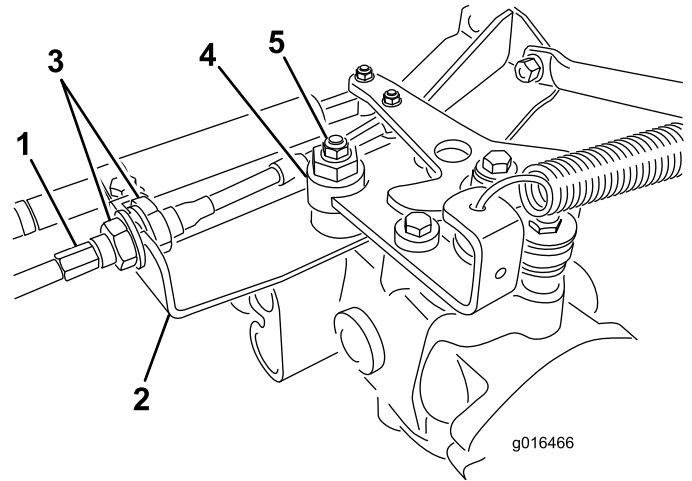

Figure 46
- A. Loosen both jam nuts securing the traction-control cable to the bulkhead on the hydrostat (Figure 46). Ensure that the jam nuts are loosened equally and sufficiently to allow adjustment.
Note: Loosen the nut securing the eccentric to the top of the hydrostat (Figure 46).
- E. When the wheel stops rotating, tighten the nut locking the eccentric and the adjustment (Figure 46).
- G. From each side of the bulkhead, tighten the locknuts evenly, securing the traction cable to the bulkhead (Figure 46). Do not twist the cable.